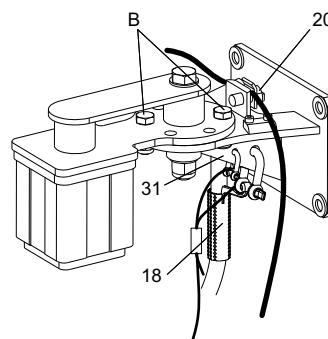

Fig. 23 Top fixation bracket with lifting and safety wires and cable sock
22. Mount the cable sock (18, fig. 23) to the top fixation bracket using the shackle, and pull the power cable through it, to the desired position. See fig. 23. The power cable must be slightly tightened.